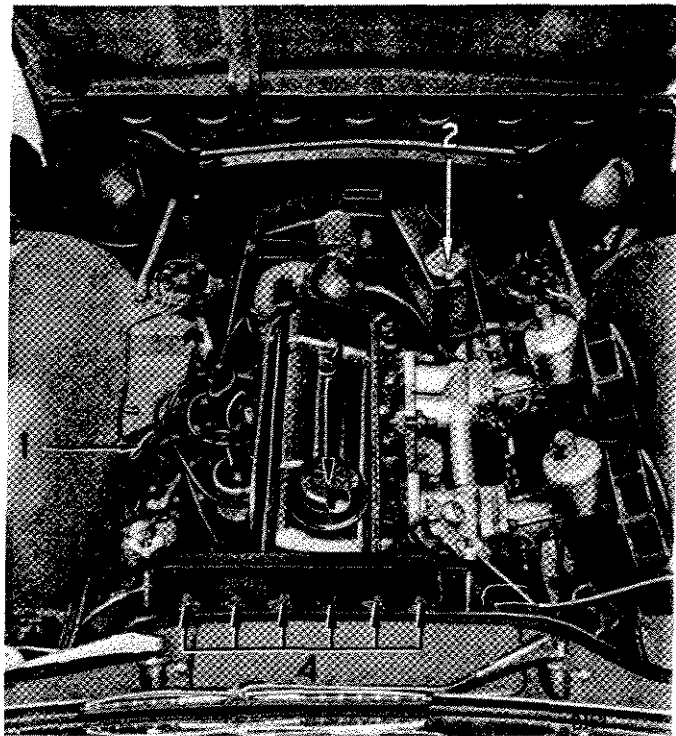

Fig. 1. Under Bonnet View
Examine the level of the electrolyte in the cells and, if necessary, add distilled water via the plugs (4), Fig. 1, to bring the level up to the top of the separators.